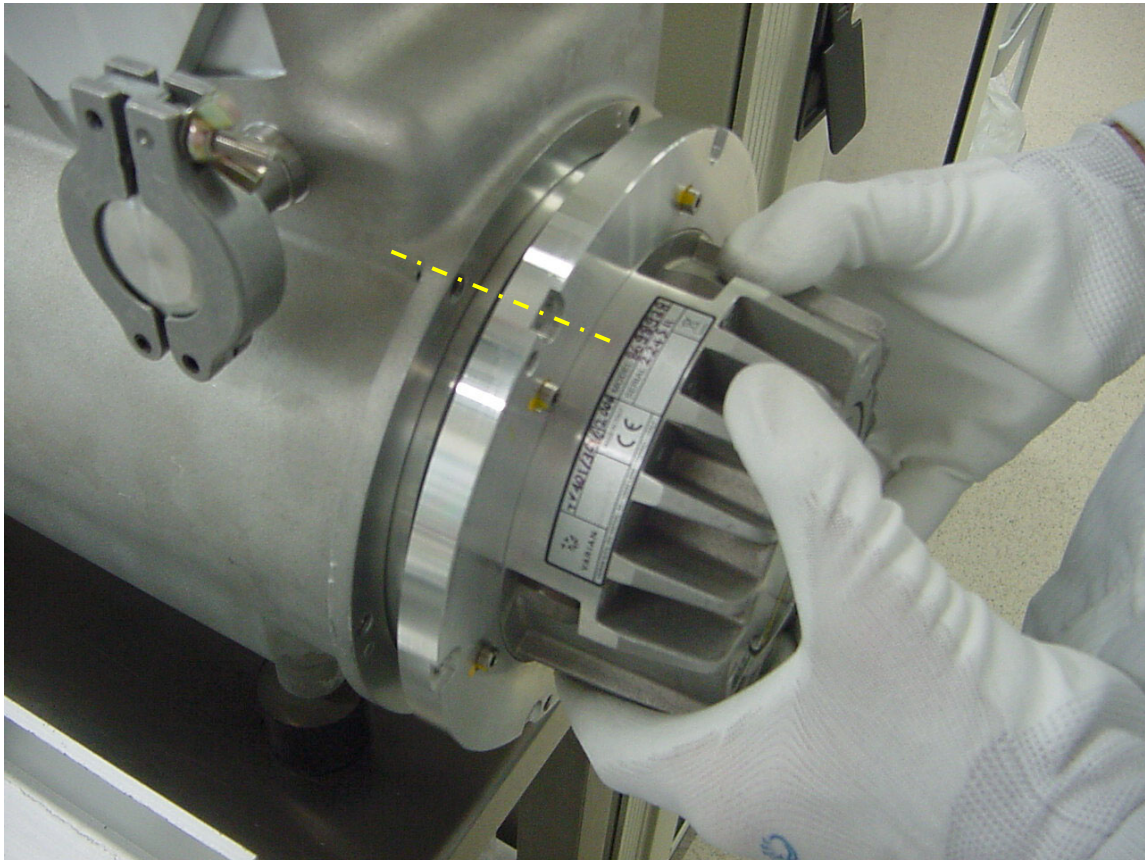

Figure 3
1. Insert the pump into the chamber carefully and without tilting it. Align the 6 insertion smooth holes of the pump flange with the 6 threaded holes in the chamber flange (Fig. 3), in order to obtain the desired foreline orientation.